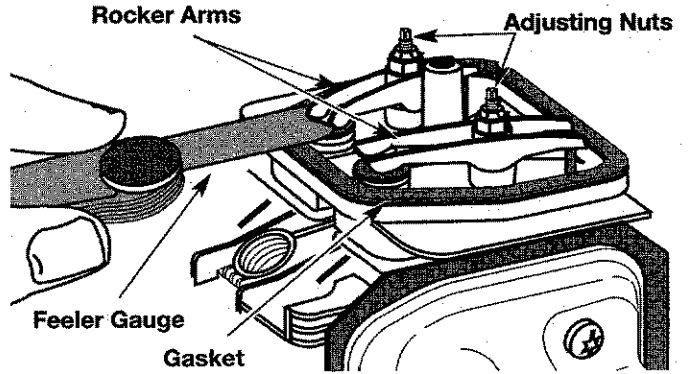

Fig. 53
10. Slide the feeler gauge between the rocker arm and the valve return spring. Measure the clearance between the valve stem and rocker arm (Fig 53). Do both intake and exhaust valves.
- a. Turn the adjusting nut using a 8 mm (5/16 inch) wrench or nut driver (Fig. 53).